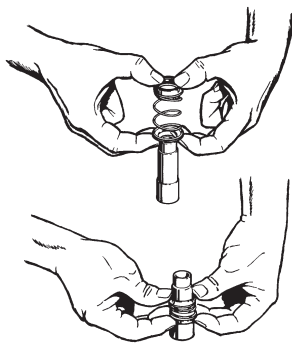

Figure 4-13
- b. While holding the motor bracket with the outlet port facing up, slide the bracket over the two (2) studs on the motor face.
- d. Install the four (4) "O" rings (#8) on the two studs. This will help hold the bracket in place during the remainder of the assembly operation.
- d. Holding the element assembly between the thumb and index finger of both hands, refer to Figure 4-13, slide the assembly over the sleeve until the spring holder rests against the shoulder of the sleeve.